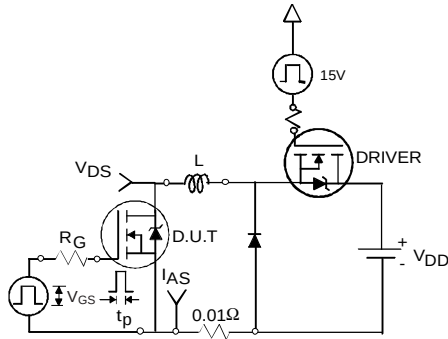

Fig 12a. Unclamped Inductive Test Circuit
3. Equation below based on circuit and waveforms shown in Figures 12a, 12b.
- ② Limited by T_{Jmax} , starting $T_J = 25^\circ\text{C}$, $L = 0.28\text{mH}$, $R_G = 25\Omega$, $I_{AS} = 33\text{A}$, $V_{GS} = 10\text{V}$. Part not recommended for use above this value.
- ③ Pulse width $\leq 1.0\text{ms}$; duty cycle $\leq 2\%$.
- ④ C_{OSS} eff. is a fixed capacitance that gives the same charging time as C_{OSS} while V_{DS} is rising from 0 to $80\% V_{DSS}$.
- ⑤ Limited by T_{Jmax} , see Fig.12a, 12b, 15, 16 for typical repetitive avalanche performance.
- ⑥ This value determined from sample failure population. 100% tested to this value in production.
- ⑦ When mounted on 1" square PCB (FR-4 or G-10 Material). For recommended footprint and soldering techniques refer to application note #AN-994.